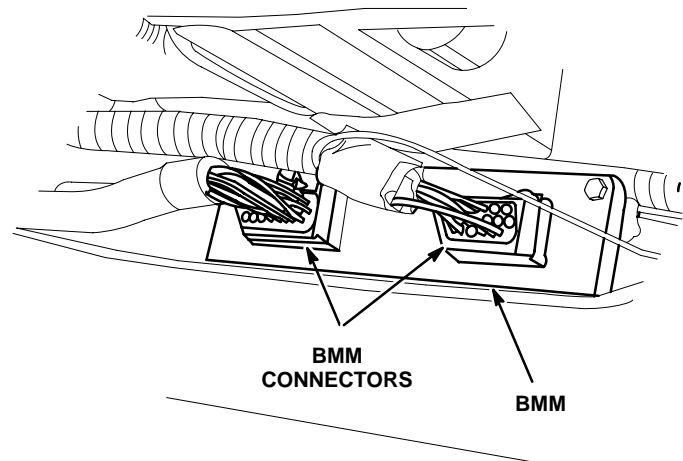

Fig. 10 BMM
- (1) Disable traction battery pack by turning the service disconnect switch to Off.
- (2) Disconnect and isolate the auxiliary battery negative cable.
- (3) Raise vehicle on a hoist. Refer to "Lifting Procedure" in this manual.
- (4) Remove traction battery tub. Refer to "Traction Battery Tub Removal" procedure in this group.
- (5) Remove battery tub cover bolts (18).
- (6) Remove battery tub cover.
- (7) Remove connectors (2) from BMM(s) to be removed (Fig. 10).
- (8) Remove BMM bolts (2).
- (9) Remove BMM .